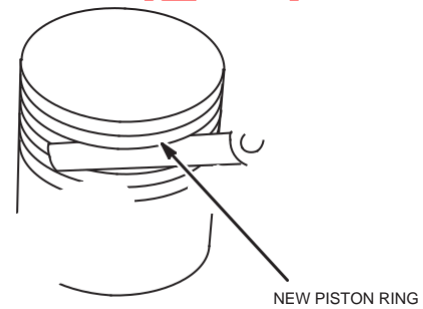

Fig. 3 – Check Ring Grooves
1. Check side clearance of ring grooves using NEW rings, Fig. 3. If a .005" (0.12 mm) feeler gauge can be inserted, the ring groove is worn. The piston must be replaced.